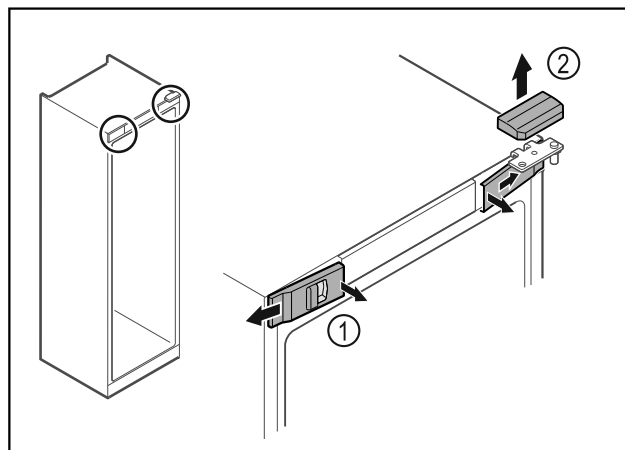

Fig. 5
- ▶ Unlatch the front covers Fig. 5 (1) on the inside and remove them sideways.
- ▶ Lift off the upper cover Fig. 5 (2).